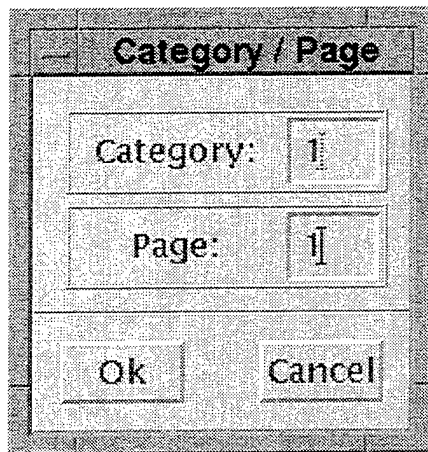

Fig. 42 — Category/page selection window
- Enter the desired category and page number in the **Category/Page Selection Window** (Fig. 42).